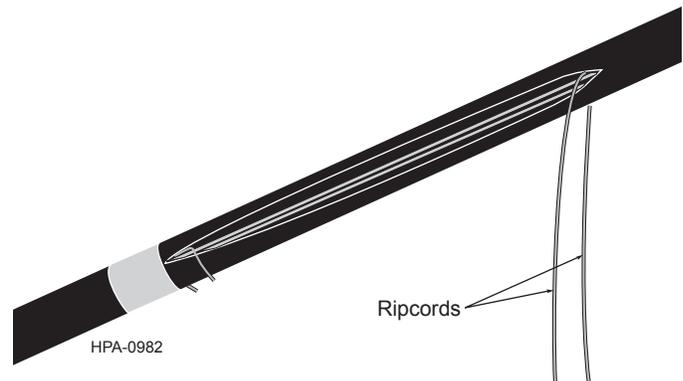

Figure 19
Step 4: Locate the ripcords. Cut the ripcords near the tape mark with scissors (Figure 19).